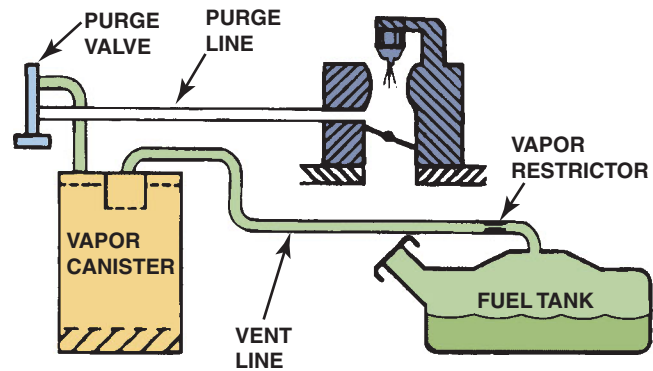

FIGURE 25-3 The EVAP system includes all of the lines, hoses, and valves, plus the charcoal canister.
- **Vapor purging.** During engine operation, stored vapors are drawn from the canister into the engine through a hose connected to the throttle body or the air cleaner. This “purging” process mixes unburned gasoline (hydrocarbons, abbreviated HCs) vapors from the canister with the existing air-fuel charge. ● **SEE FIGURES 25-3 AND 25-4.**